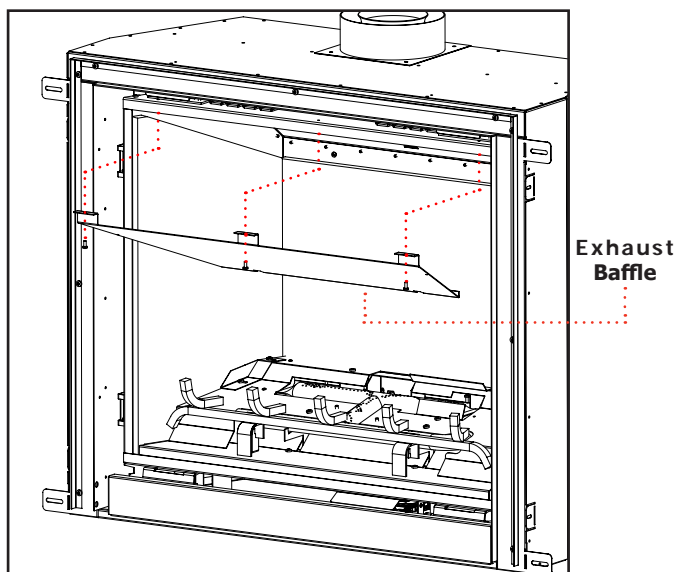

Figure 26b.
Step 3. Using T20 screwdriver remove the X3 fasteners securing the exhaust baffle in place. Fig.26b
Step 8. Using X3 T20 screws secure front of Exhaust Baffle to the underside of the firebox. Fig 26b.